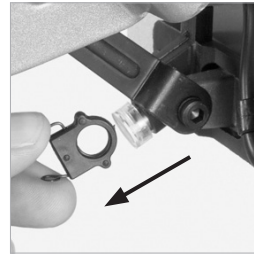

Fig. 38
- Remove the lower guard operating arm retaining clip. (Fig. 38)
- Release the guard operating arm from its pivot. (Fig. 38)